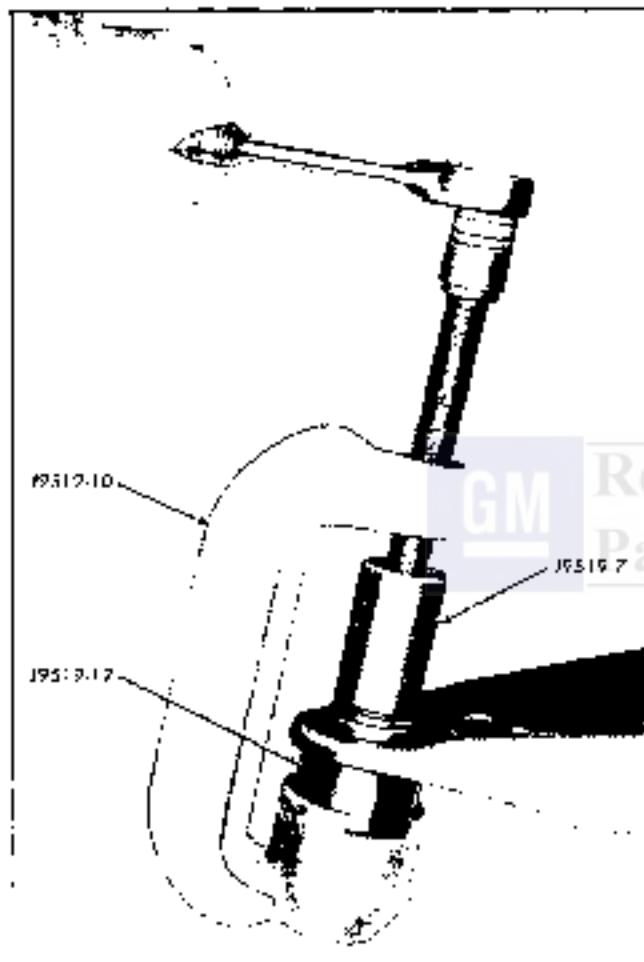

Fig. 3-21 Ball Joint Removal
4. Use a screwdriver to pry off the seal and retainer. Install tools J 9519-10, J 9519-17 and J 9519-7, as shown in Fig. 3-21 and turn down on the hex head screw until the ball stud is pushed out.